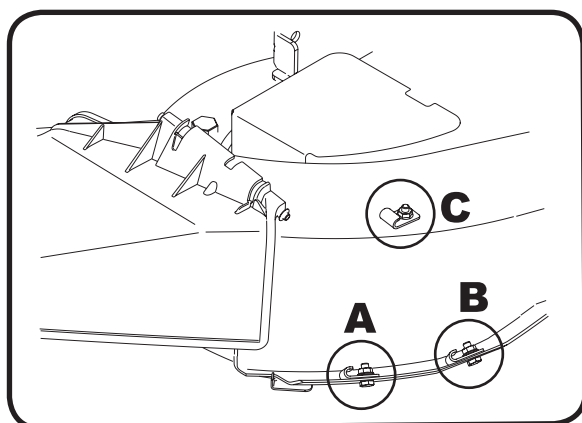

Figure 5-2
1. **On older models:** Some older models may have a clip already installed on the deck (See Fig. 5-2) next to the discharge chute opening. If this is the case, the clip must be removed and a grass catcher pin, which is included in your hardware pack, installed. To remove clip, simply remove the lock nut, spring washer and hex bolt that secure it. See Fig. 5-3A.